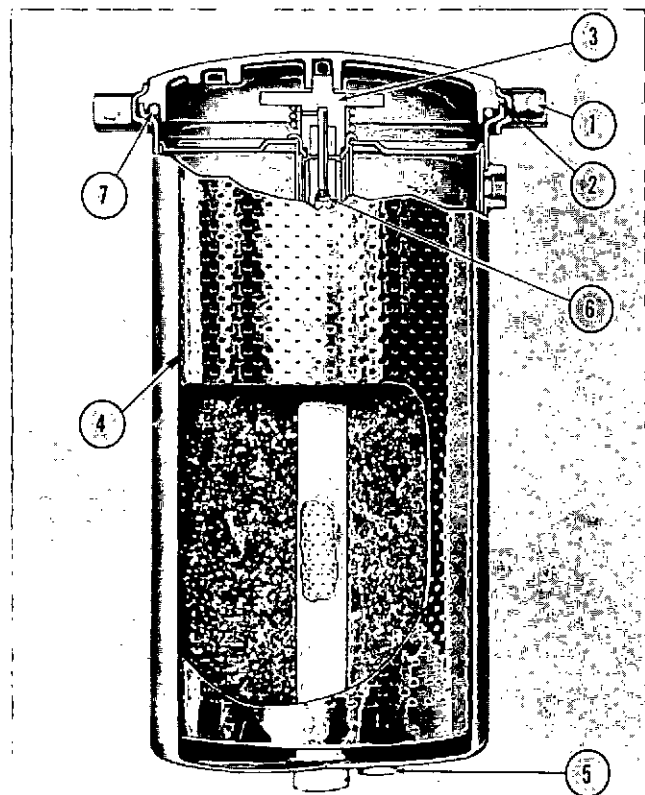

Fig. 5-14, V41908. By-pass filter cross-section
1. Remove drain plug (5, Fig. 5-14) from bottom of housing and drain oil.
2. Remove clamping ring capscrew (1) and lift off cover (2).
3. Unscrew upper support hold-down assembly (3); lift out element (4) and hold-down assembly. Discard element.
7. On the Cummins Fleetguard by-pass filter, check orifice plug (6) inside oil outlet connection or standpipe; blow out with air jet to make sure orifice is open and clean.
8. Check filter cover "O" ring (7). Replace if damaged or deteriorated.